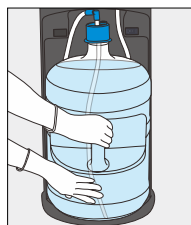

Figure 9
10. Slide bottle into cabinet and close the door by sliding downward (Figure 9).